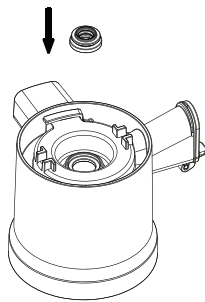

Fig 12b
- After cleaning, place the seal ring back into the center hole. Ensure that the small ribbed surface faces upward (Fig 12b). Make sure the groove of the seal ring fits snugly in the squeezing bowl.